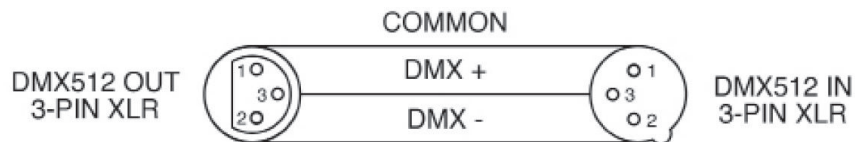

Figure 1
**Notice:** Be sure to follow figures 1 and 2 when making your own cables. Do not use the ground lug on the XLR connector. Do not connect the cable’s shield conductor to the ground lug or allow the shield conductor to come in contact with the XLR’s outer casing. Grounding the shield could cause a short circuit and may result in erratic behavior.